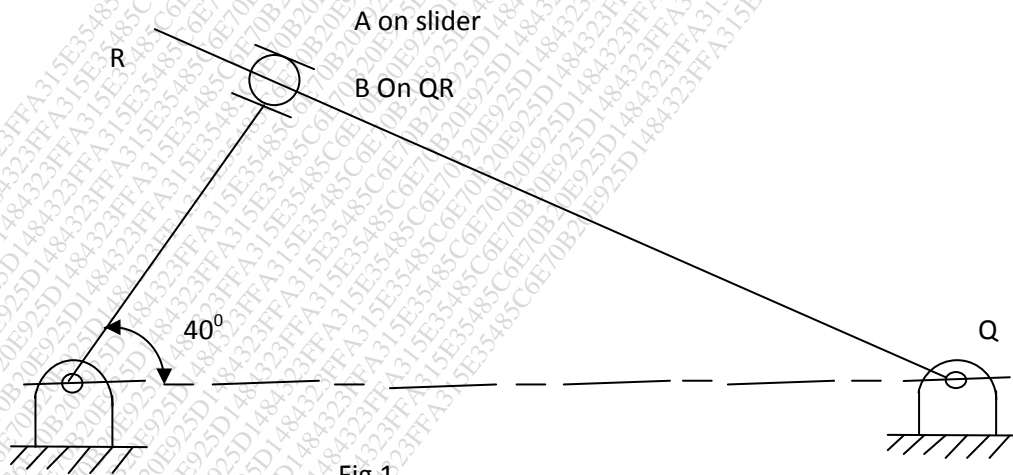

Fig.1
- Q.2 For the inverted slider-crank mechanism shown in fig.1 find the angular velocity of the link QR 13